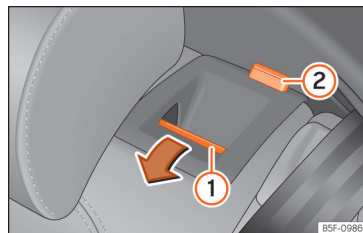

Fig. 122 Rear seat: folding the backrest.
- Press the unlock button »» Fig. 122 ① forwards and at the same time fold the backrest down. The rear seat backrest is not engaged when the red marking of the button ② is visible.